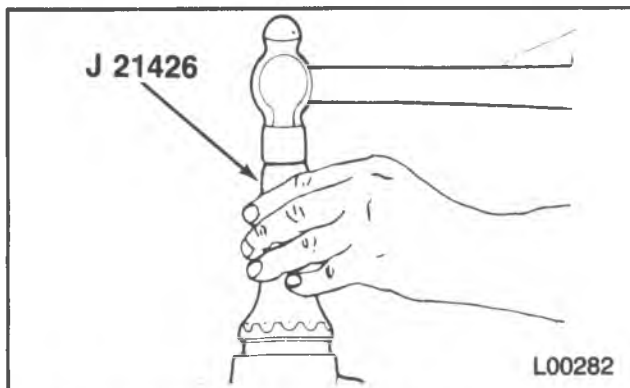

Figure 3 — Rear Extension Seal Installation (89MM 4 Speed OD)
1. Sealant (GM Part No. 1052942) on the outside of a new seal (105).
2. New seal (105) using J 21426 (figure 3).